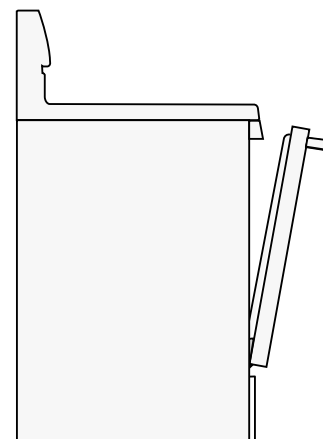

Fig. 2
2. Position cookware in oven. **Leave the oven door open** at the broil stop position when broiling (See Fig. 2).